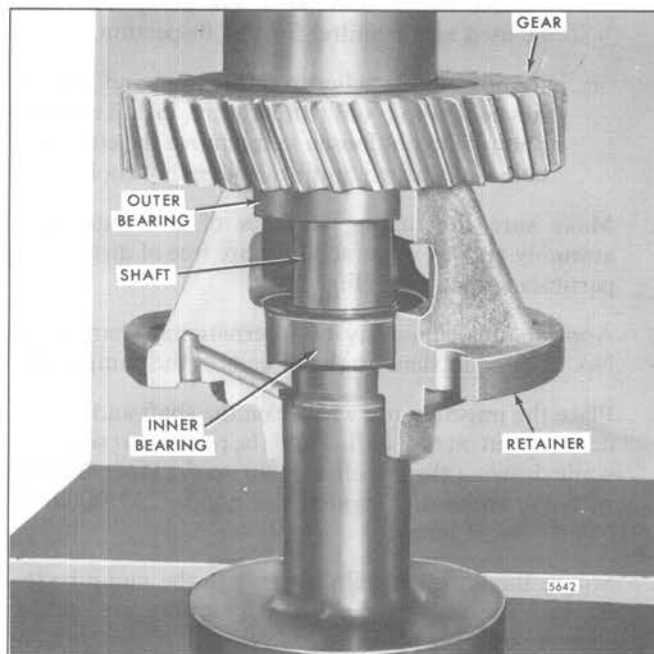

Fig. 16 – Pressing Gear on 12V-92 and 16V-92 Water Pump Shaft using Tool J 25257
4. With gear installer J 25257 positioned on the threaded end of the shaft, place the bearing retainer assembly on the bed of an arbor press (Fig. 16). Tool J 25257 will hold the shaft vertically to ensure the gear is pressed squarely on the shaft. Press the gear on the shaft so that it is flush with the end of the shaft.